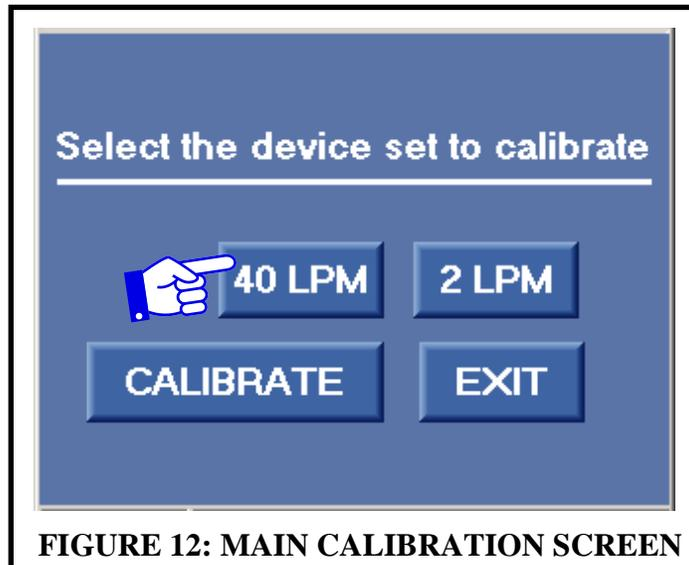
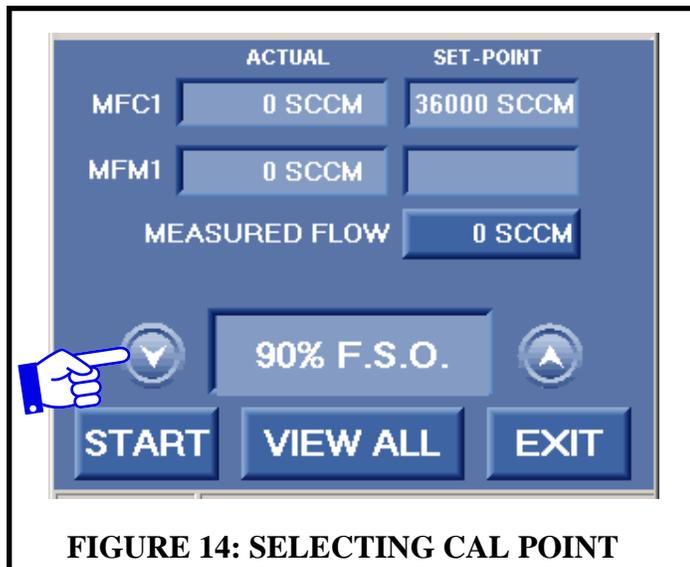
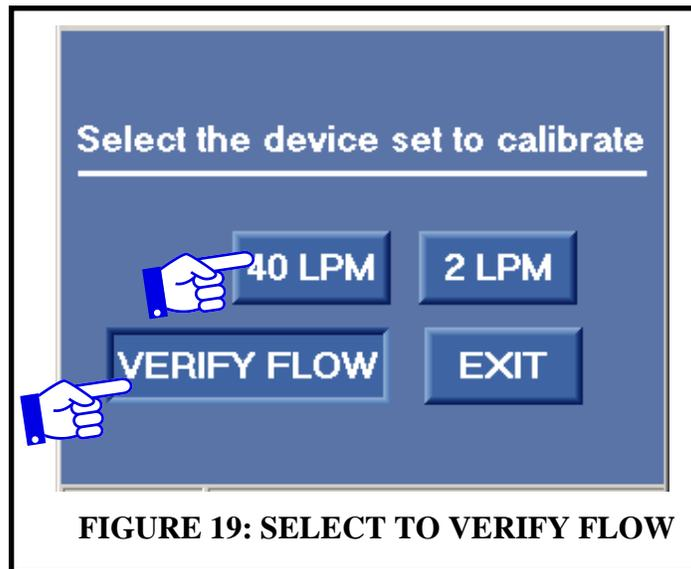

FIGURE 12: MAIN CALIBRATION SCREEN
FIGURE 14: SELECTING CAL POINT
FIGURE 19: SELECT TO VERIFY FLOW
1. From the standby screen shown in figure 2 on page 5, press the CALIBRATE button. The screen shown in figure 12 will appear. At this point in the procedure, It is important not to press the CALIBRATE button shown on this screen. This button toggles the instrument between calibrate mode and verify mode. Verify mode is used to verify the flow accuracy once the instrument has been calibrated. The fact that the word calibrate is shown on the face of this button indicates that the system is in the calibrate mode.
3. Use the up or down arrow keys to change the desired calibration point. As the arrow buttons are pressed, both the percentage and set point values change, as shown in figure 14 on page 13. Pressing the exit button will bring back the main calibration screen shown in figure 12.
11. Press the stop key and the screen shown in figure 14 will reappear .
1. From the main calibration screen shown in figure 12, press the calibrate button. The word on the face of the button will change from Calibrate to Verify, as shown in figure 19.